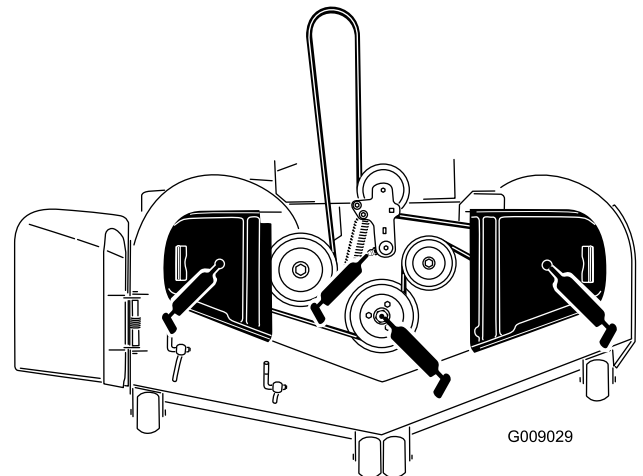

Figure 42
3. Grease the mower deck idler-pulley pivot until grease comes out the bottom (Figure 42).
4. Grease the 3 spindle bearings until grease comes out (Figure 42).